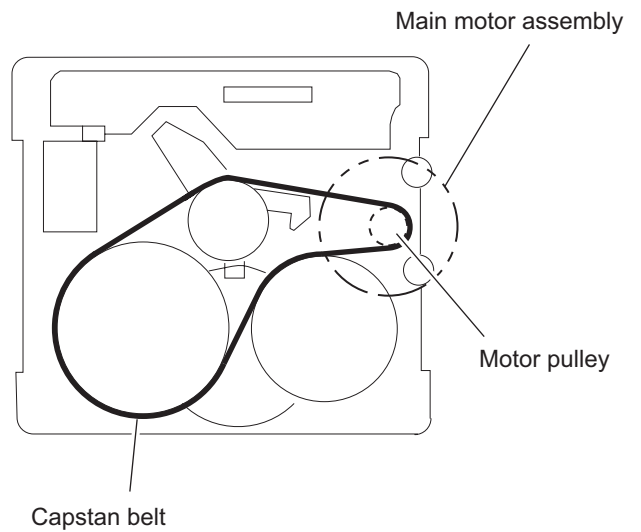

Fig.6
Be careful to keep the capstan belt from grease. When reassembling, refer to Fig.6 and 7 for attaching the capstan belt.
- (1) Remove the four screws **F** attaching the top woofer.
- (2) From the back side of the top woofer, disconnect the red and black wires from the terminal.
3.4.6 Removing the bottom woofer (See Fig.6)